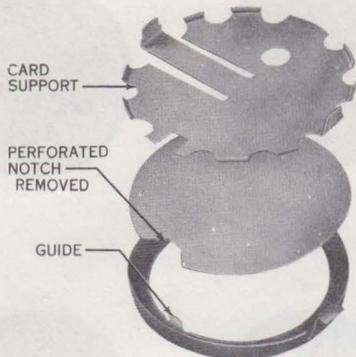

Fig. 7—Method of Placing Number Card in Holder
4.02 To install number card in metal fingerwheel (Fig. 7):